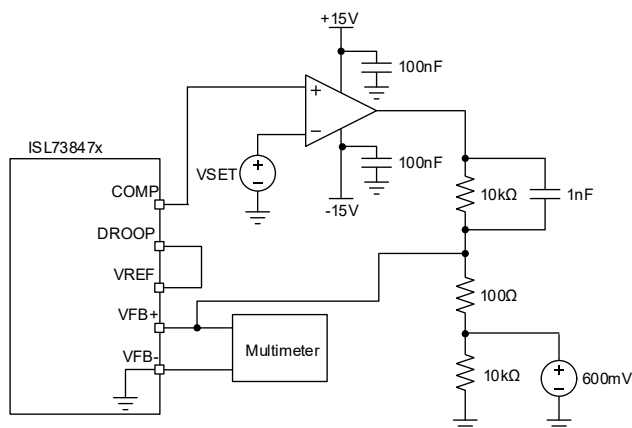

Figure 7. Closed-Loop Circuit
3. This test is conducted in a closed loop circuit as shown in Figure 7 and includes the error amplifier offset.